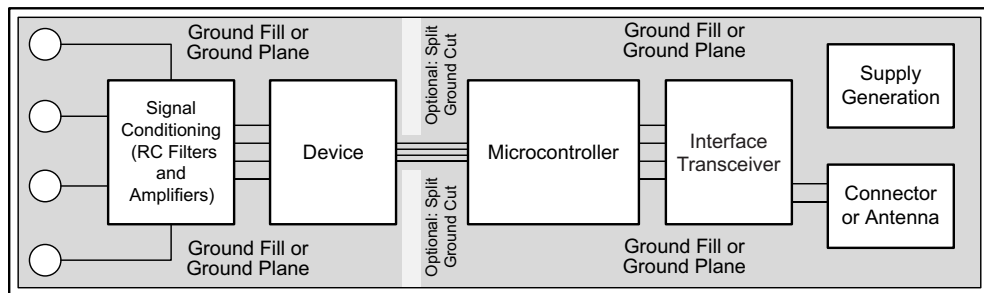

Figure 78. System Component Placement
TI recommends employing best design practices when laying out a printed-circuit board (PCB) for both analog and digital components. This recommendation generally means that the layout separates analog components [such as ADCs, amplifiers, references, digital-to-analog converters (DACs), and analog MUXs] from digital components [such as microcontrollers, complex programmable logic devices (CPLDs), field-programmable gate arrays (FPGAs), radio frequency (RF) transceivers, universal serial bus (USB) transceivers, and switching regulators]. An example of good component placement is shown in Figure 78. Although Figure 78 provides a good example of component placement, the best placement for each application is unique to the geometries, components, and PCB fabrication capabilities employed. That is, there is no single layout that is perfect for every design and careful consideration must always be used when designing with any analog component.